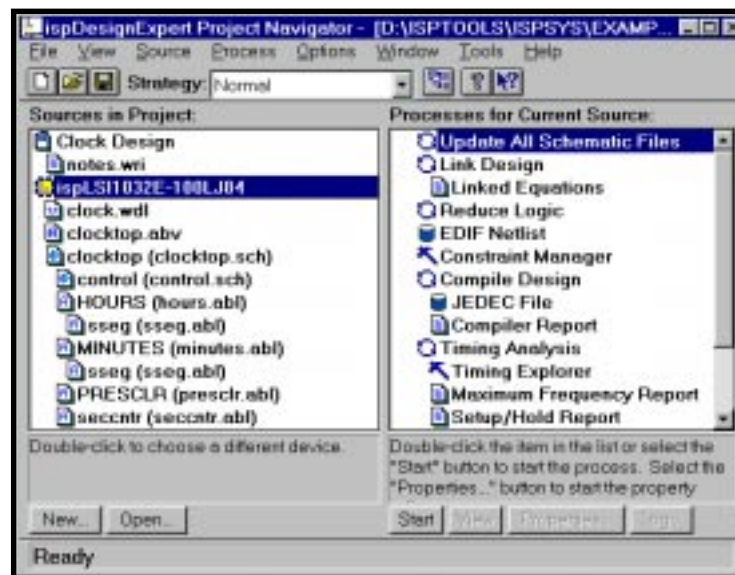

Figure 3-54. ispDesignExpert Project Navigator
1. With the device selected (Figure 3-54), select **Source** ⇒ **New** from the Project Navigator menu bar. In the dialog box, select Schematic and click **OK**. Enter the file name in the File Name text box. Click **OK**. You are now in the Schematic Editor.